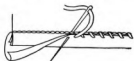

FIGURE 86
*Binding* (Figure 86). — Press the seam open or together and stitch the right side of a  $\frac{1}{2}$ -inch binding to the right side of the seam to be bound. The binding is turned to the wrong side and the raw edge pressed under  $\frac{1}{8}$  inch. Place the folded edge to the line of stitching where it is held in place by the hemming stitch. (Figure 18).